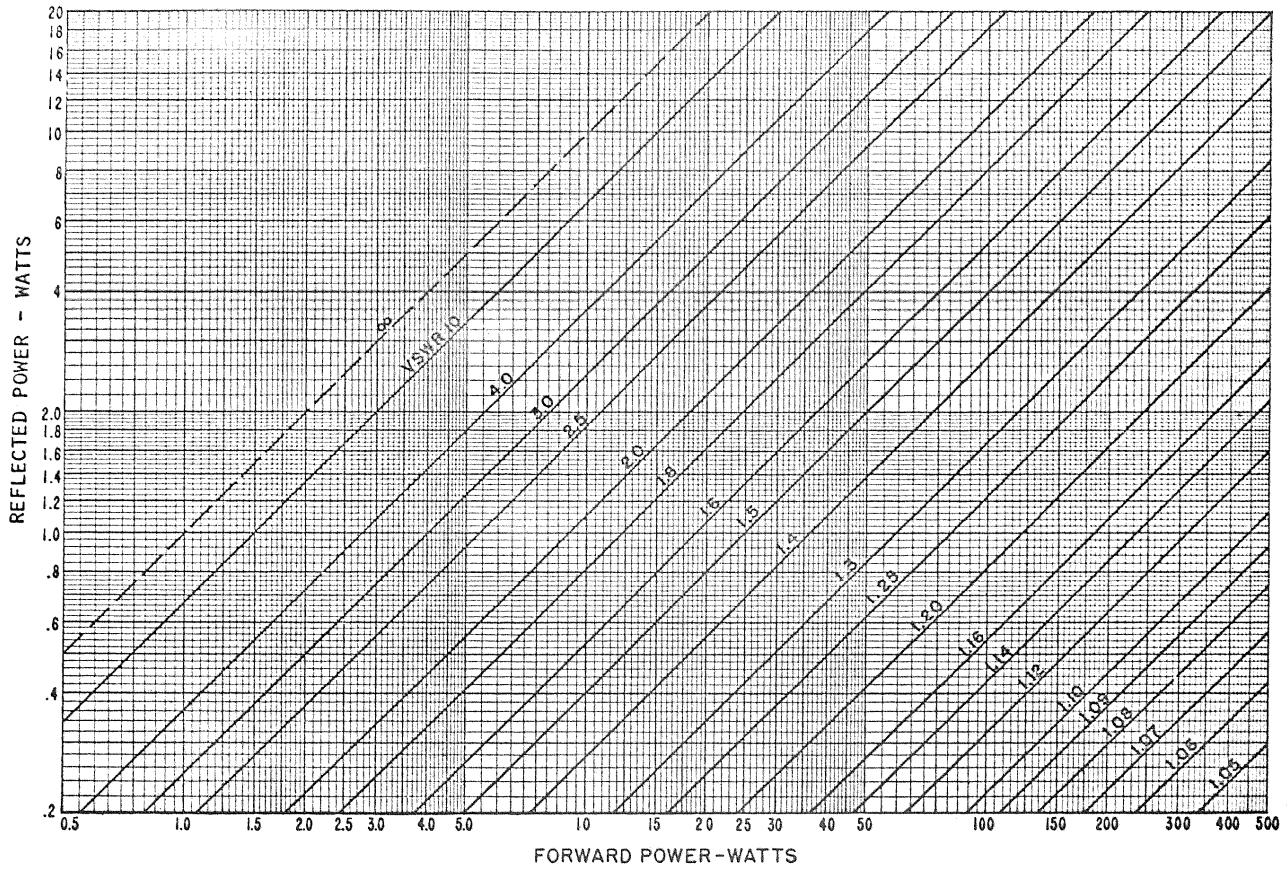

Fig. 3-2 FOR HIGHER POWER VALUES MULTIPLY BOTH SCALES BY THE SAME DECIMAL FIGURE
- b. Refer to the appropriate graph (figure 3-2 or 3-3) to convert the forward wattage reading and the reflected wattage reading to VSWR. Note that the graphs convert the readings directly into VSWR values without any intermediate computations.